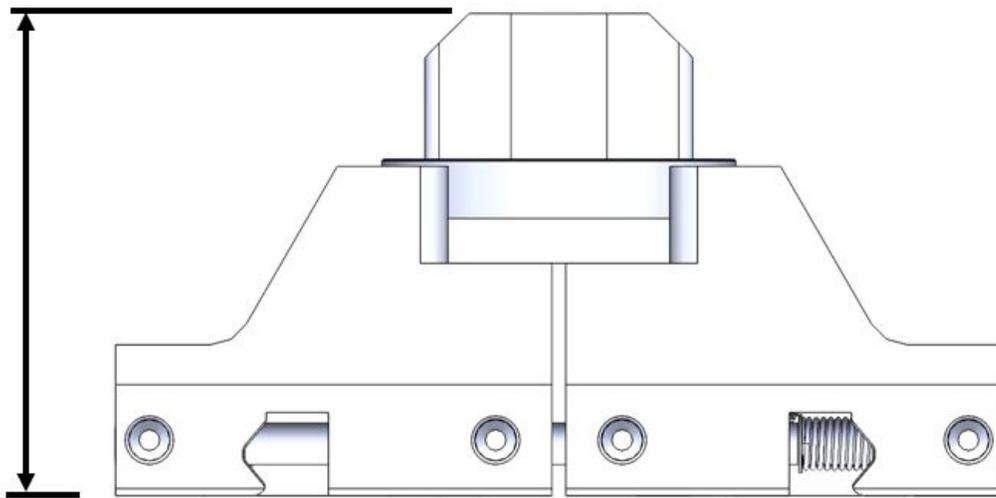

FIGURE 4. OUTFEED HEIGHT
2. **Height** - Last Operation Jaw + Finished Part + Shelf Locator thickness refer to Figure 4 on page 6 and Table 3 on page 8, for Standard and High Entry values. The Height value entered here needs to be less than the Entry Height selected in the Infeed section.